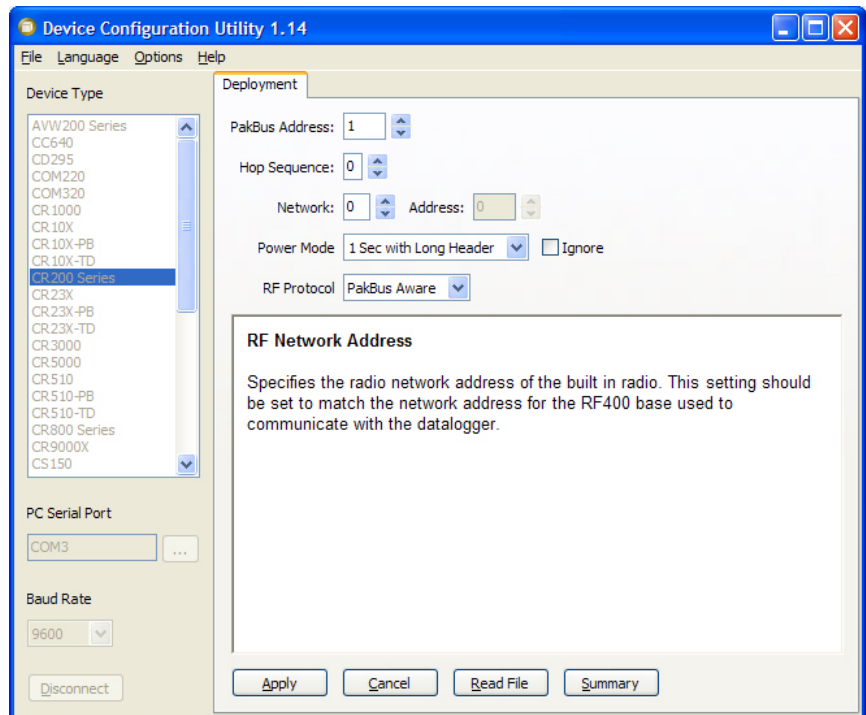

FIGURE D-1. CR206 Setup Main Menu
D.1 CR206(X) Setup Information
1. Access the Deployment panel in DevConfig (see FIGURE D-1).